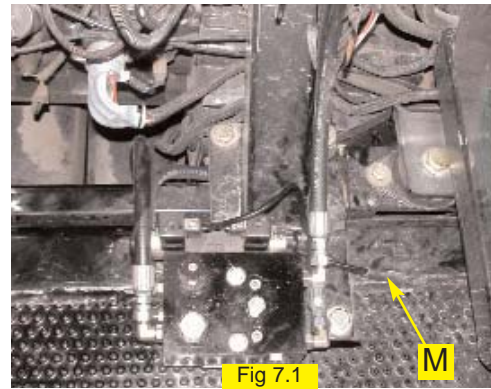
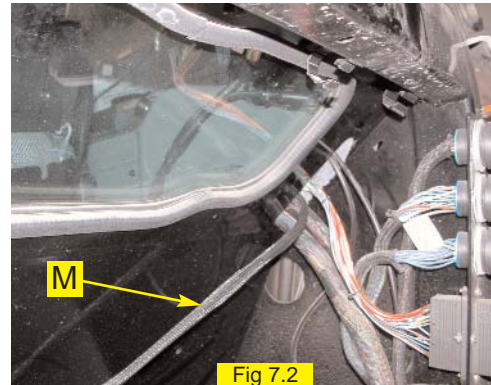

Fig 7.1
Fig 7.2
Attach the hydraulic valve control cable (M) to the hydraulic control block and route it back under the sprayer cab along the left side. (Figure 7.1) The cable can be routed into the cab through a grommet in the back right corner of the cab, near the lower window. (Figure 7.2) To access this grommet from inside the cab it is necessary to remove the console in the back right corner.